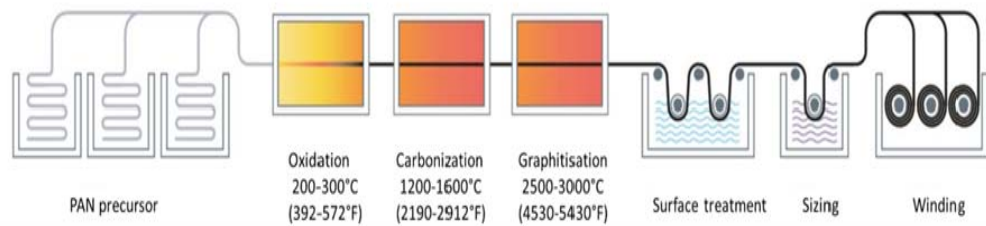

Figure 3: Production process of graphite fibers.
- (4). (a). Describe the process to produce graphite fibers. **Figure 3** shows the production process of graphite fibers.